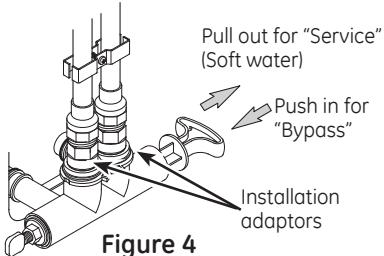

Figure 4
Always install either a single bypass valve (provided) as shown in Figure 4, or, if desired, parts for a 3 valve bypass system (not included) can be purchased and assembled, as shown in Figure 5. Bypass valves allow you to turn off water to the softener for maintenance if needed, but still have water in house pipes.
3. Place the bypass valve in "bypass" position (see Figure 4). On a single valve, slide the stem inward to bypass. On a 3-valve bypass, close the inlet and outlet valves and open the bypass valve.
8. Once the unit is in the backwash, place bypass valve in SERVICE position (see Figure 4), exactly as follows: